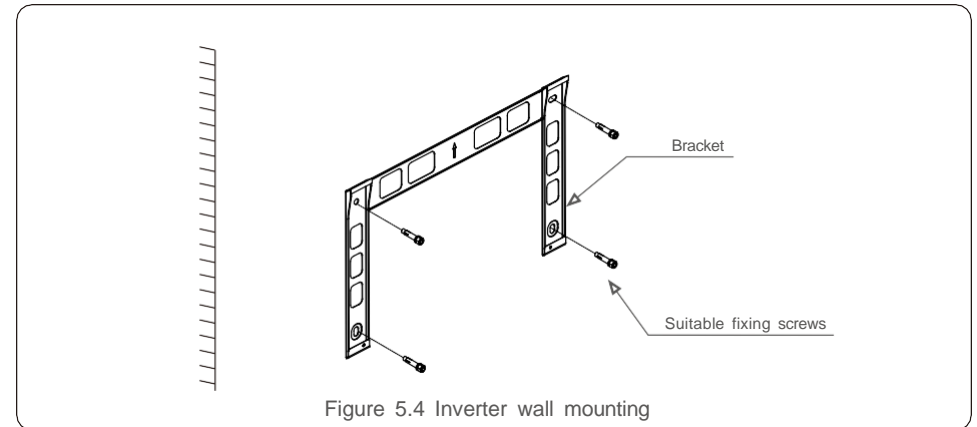
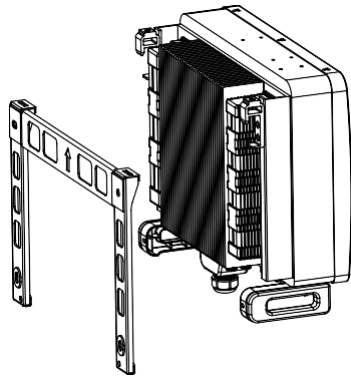

Figure 5.4 Inverter wall mounting
Figure 5.5 Install the inverter
Refer to figure 5.4 and figure 5.5. Inverter shall be mounted vertically. The steps to mount the inverter are listed below.
1. Refer to Figure 5.4, the holes for expansion bolt based on the hole diameter of bracket (M10*70) , using the percussion drilling with the 10mm drill need to stay vertically on the wall. And the drill hole must be vertically on the wall. And all drill holes' depth is 60mm.
2. Make sure the bracket is horizontal. And the mounting holes (in Figure 5.4) are marked correctly. Drill the holes into wall at your marks.